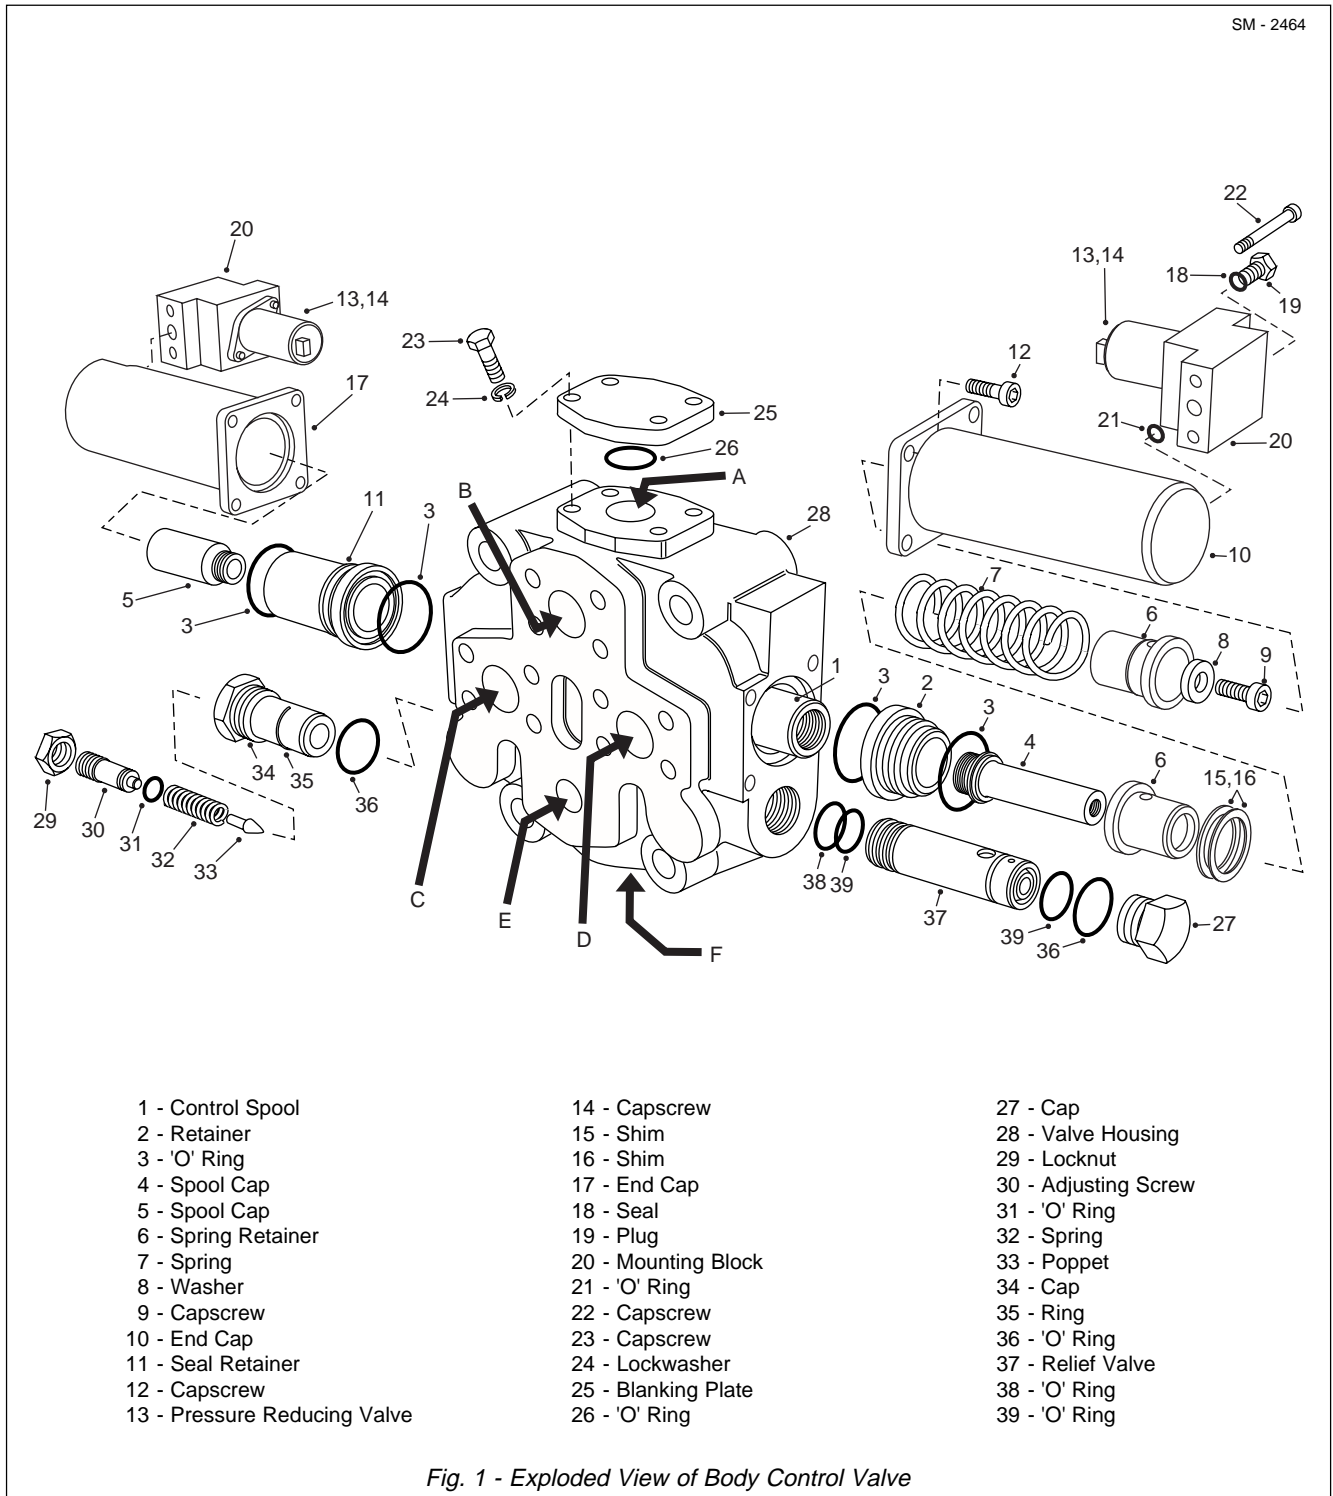

Fig. 1 - Exploded View of Body Control Valve
2. Install new lip seals (20) and location sleeve (19) to front cover (2), as shown in Fig. 1.
Numbers in parentheses refer to Fig. 1.
Numbers and letters in parentheses refer to Fig. 1.